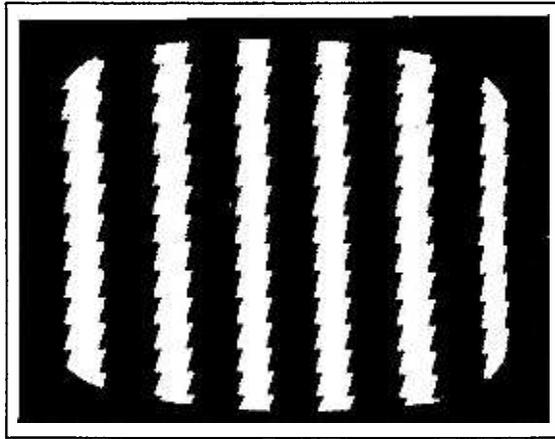

Figure 5-3. Picture Skewing of Vertical Bar Test Signal
3. Initiate the play mode and observe the video monitor to determine if any skewing is present (see Figure 5-3).